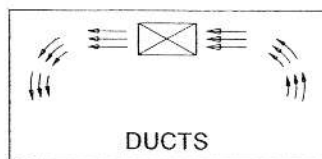

FIGURE 3
3. Mount the unit near the wall opposite the cold air or heating ducts. (Figure 3.)